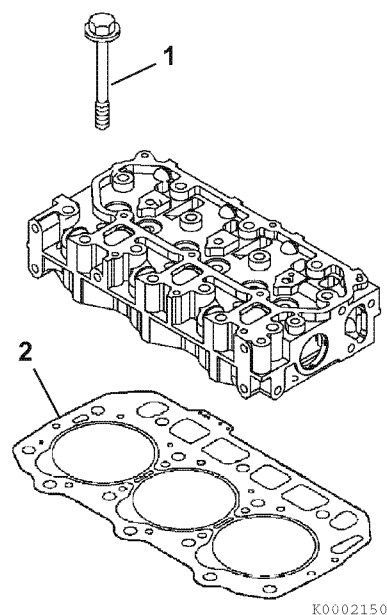

Figure 6-7
2. Remove the cylinder head bolts (1, **Figure 6-7**).
3. Lift the cylinder head away from the cylinder block. Discard the cylinder head gasket (2, **Figure 6-7**). Position the cylinder head on the work bench to prevent damage to the combustion surface.